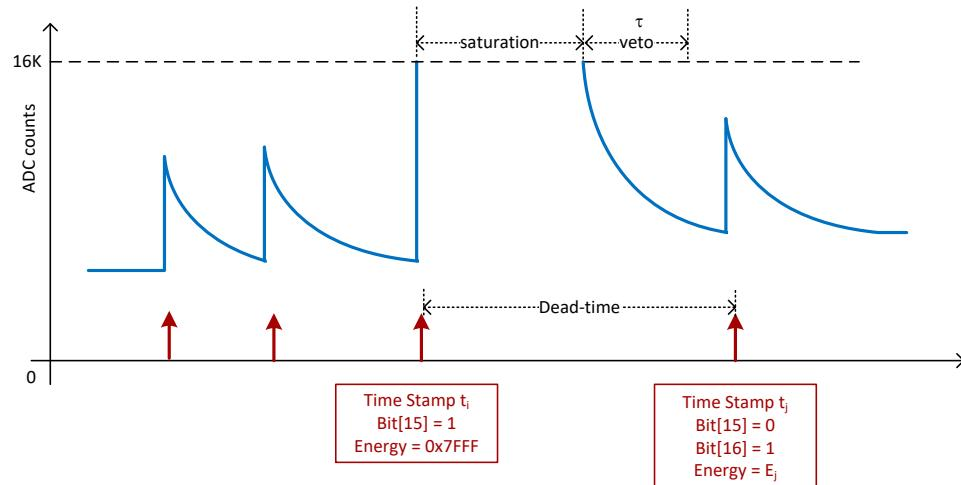

Fig. B.7: Dead-time in case of signal saturation.
3. DEAD\_TIME in case of signal saturation (see **Fig. B.7**). If the input signal is over-range (exceeds the input dynamic range of 16k ADC channels) then the acquisition is inhibited. As soon as the input signal is in saturation an event is saved with the corresponding time stamp, and bit[15] set to 1. The energy value is set to the maximum. This event has to be discarded for the energy spectrum, anyway it can be considered for the dead-time calculation. Once the signal is out of saturation a new trigger is inhibited for a time window  $\sigma$  equal to the Decay Time. The first event after the saturation is tagged with bit[16] = 1.